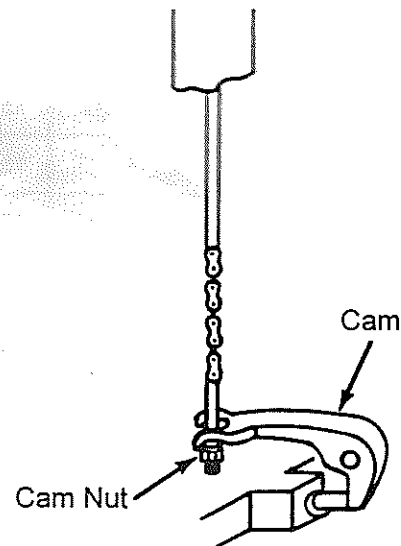

Fig.6
2. Turn the cam nut while pumping the handle. See Figure 6.